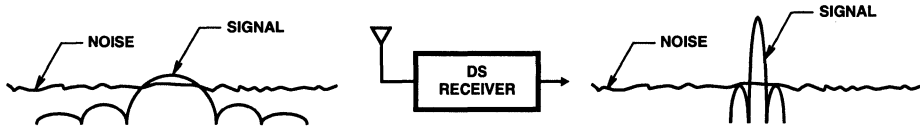
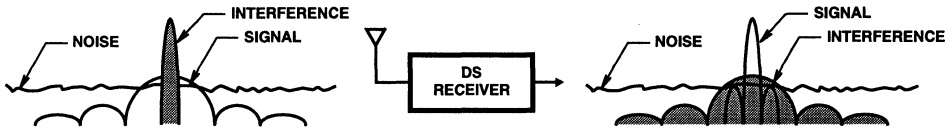

FIGURE 2A. LOW POWER DENSITY
FIGURE 2B. INTERFERENCE REJECTION
The next form of spread spectrum is called Direct Spread (DS) and this is the other form of spread spectrum allowed by the FCC in this band. With DS, the data is mixed (XOR) with a high rate pseudo random sequence before being PSK modulated onto the RF carrier. This high rate sequence can be many orders of magnitude higher in rate than the data. In the ISM band, it is limited to not less than a 10:1 spreading ratio. This high rate phase modulation spreads the spectrum out while dropping the power spectral density. This means that this kind of signal will interfere less with narrow band users. It also has some interference immunity to those narrow band emitters. The receiver processing of DS signals begins with despreading the signals. This is done by mixing the spread signal with the same PN sequence that was used for spreading. See Figure 2A. This collapses the desired signal to its original bandwidth and form. It meanwhile spreads all other signals that don't correlate with the spreading signal. Thus a narrowband interference will get spread in this operation and will not fit through the narrow data filter. See Figure 2B. When the signal energy is collapsed to the data bandwidth, its power spectral density is increased by the amount of the processing gain which is proportional to the bandwidth reduction. Thus a signal that was received at or below the noise floor, is now above the noise and can be demodulated.